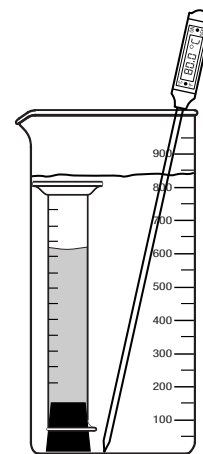

Figure 1.
The purpose of this experiment is to determine the vapor pressure of water at different temperatures. A small amount of air will be trapped in an inverted graduated cylinder and heated to 80 °C (see Figure 1). As the temperature increases, the air will expand and become saturated with water vapor. The volume of gas will be measured at 5 °C-intervals as the water bath is cooled to 50 °C. Finally, ice will be added to cool the gas to 0 °C and the volume of “dry air” will be recorded—at this temperature, the vapor pressure of water is low and we assume that the trapped gas contains only air.
3. Add more hot tap water as needed to the beaker so that the entire graduated cylinder is under water and the trapped air is also surrounded by the water bath (refer to Figure 1).